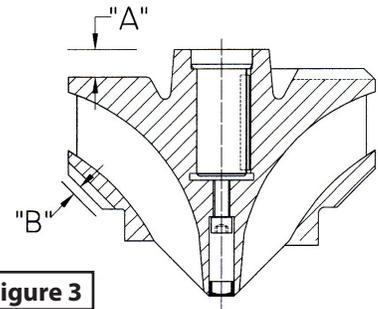

Figure 3
Check the gap (A) between the intermediate and upper portion of impeller with a feeler gauge which should be between .012" - .059". Gap (B) between the lower portion of impeller and volute should be between .012" - .059". See Figure 3.